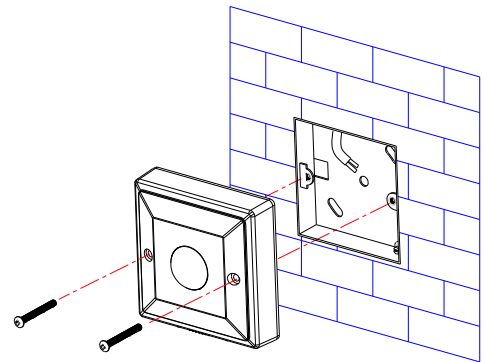

FIGURE 6
- (4) Fit the main body to the wall box and secure it with two fixing screws provided. (FIGURE 6)